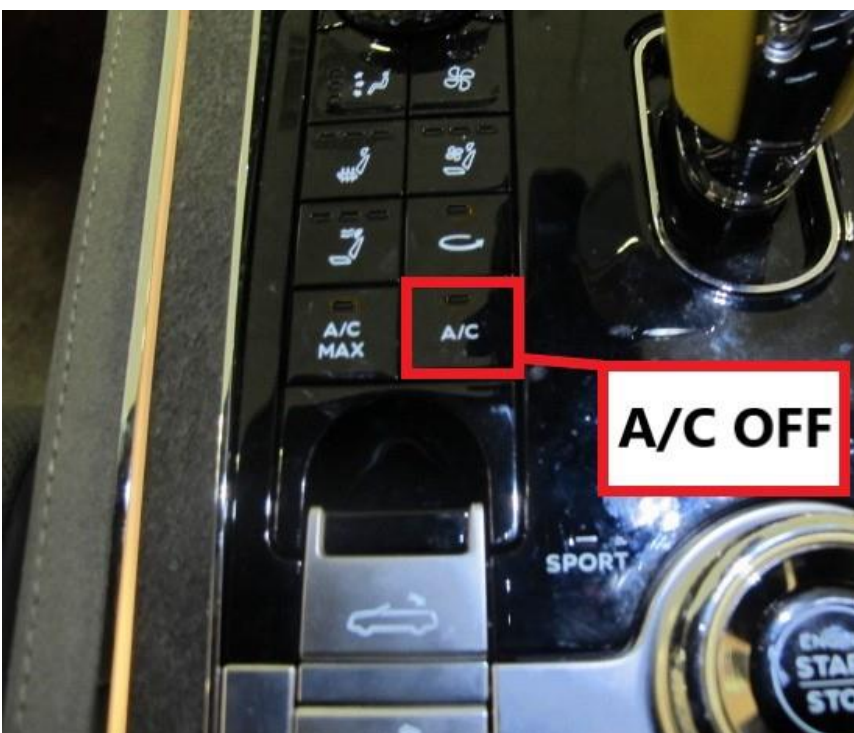

Figure 4
3) Referring to Figure 4 - Switch the A/C OFF